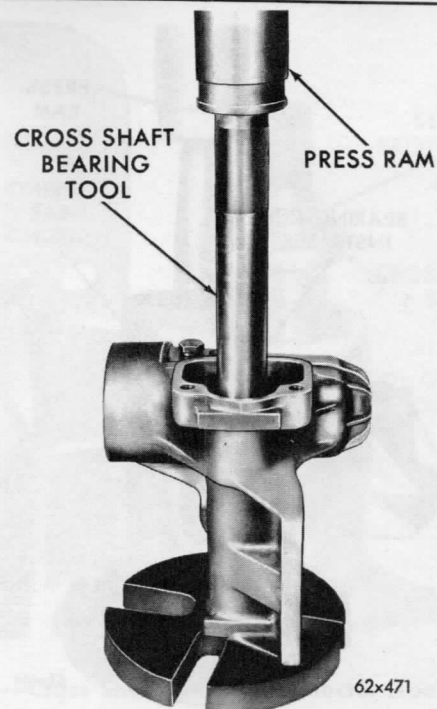

Fig. 12—Pressing Inner Bearing into Housing (Tool C-3875)
(2) Install the inner needle bearing by placing bearing on Tool C-3875 with adapter ring (Fig. 12). Press the bearing into the inside end of the housing bore flush with the inside end of the bore surface.